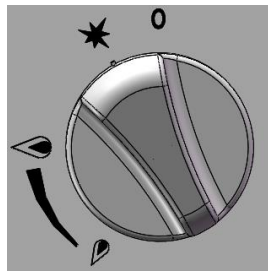

Fig. 3
- ②And then axial press the front air valve knob, left 30 degrees, to the fire position  (Fig. 3).
③At the fire position, completely press the knob, and press the button of the piezo igniter with another hand simultaneously. Keep pressing the knob about 10-15 seconds, and observe stability of fire.
④If the fire is not lit, please repeat the above steps until the fire is ignited.
①When the control knob is rotated to the fire position  (Fig.3), the main fire burner flame is extinguished, but the pilot light will continue to work.